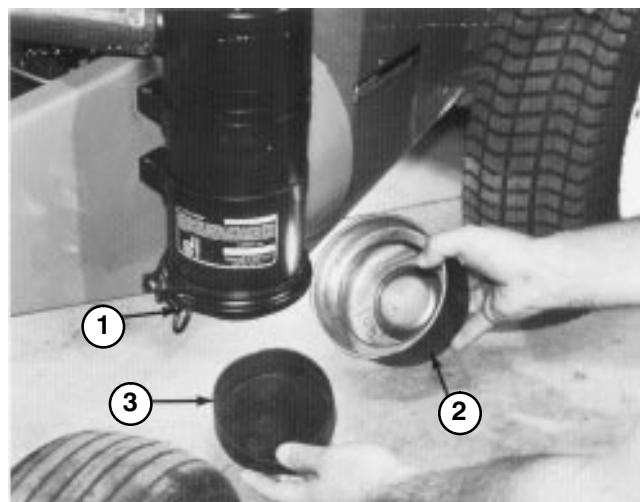

Figure 43
1. Loosen thumb screw until dust cup and baffle can be removed (Fig. 43). Separate dust cup and baffle.